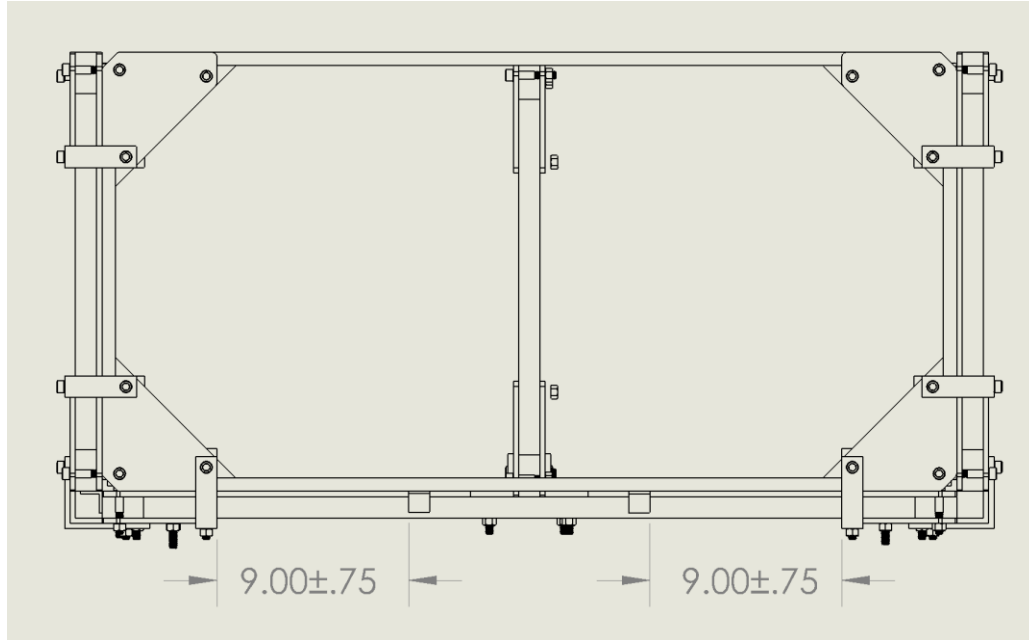

Figure 1.9
10. Epoxy two Side Support Brackets (PN THOA010) to the Bottom Coil, see step 2 for reference on this process. One leg of the bracket should be flush to the Bottom Coil, and the other flush to the Front Coil. The leg flush to the Front Coil **SHOULD NOT** be epoxied to the Front Coil. The outside edge of each Side Support Bracket should be about $9'' \pm 0.75''$ away from the closest edge of the nearest Longer Outer Angle Bracket. Dimensioning is shown in Figure 1.9.